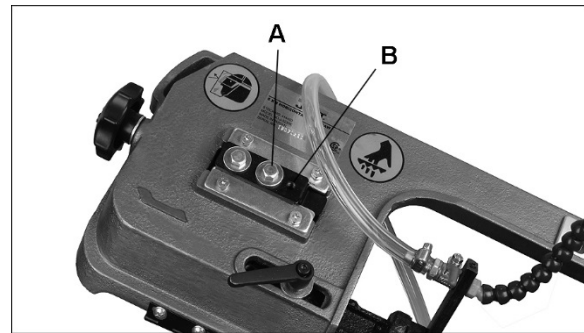

Figure 18: Blade tracking mechanism
5. Refer to *Figure 18*. Use a wrench to loosen bolt **A**, a small amount.